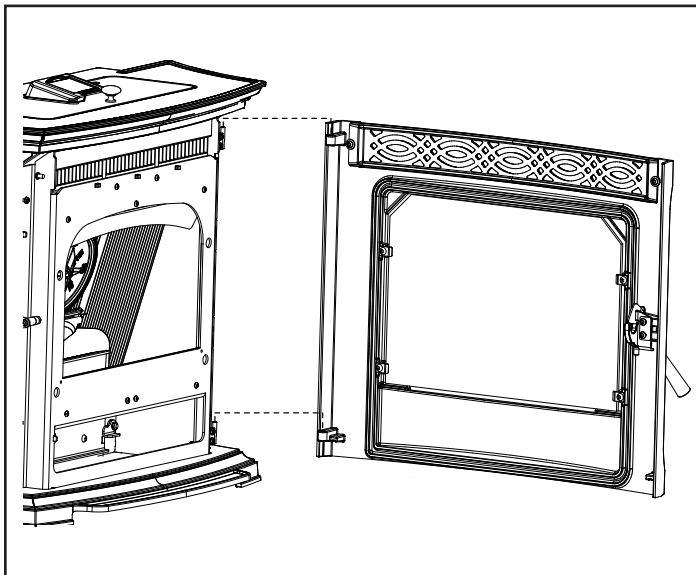

Figure 5.1
1. Remove the front viewing door by swinging it open approximately 90° and lift it upward until it clears the hinge pins. See Figure 5.1.